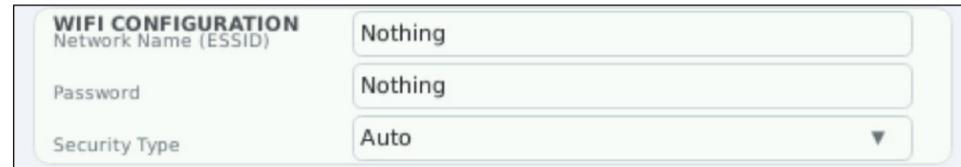

Figure 30
- a. In the WiFi Configuration section, select the **Network Name (ESSID) input** (Figure 30) to open the onscreen keypad.